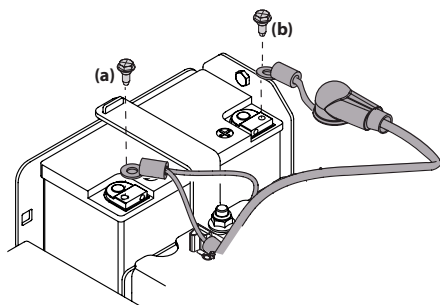

Figure 4-6
2. Remove the hex screw securing the black negative battery lead (a) to the negative battery post (marked NEG). Move the cable away from the negative battery post. See Figure 4-6.
3. Remove the hex screw securing the red positive battery lead (b) securing the red positive battery lead to the positive battery post (marked POS). Move the cable away from the positive battery post. See Figure 4-6.